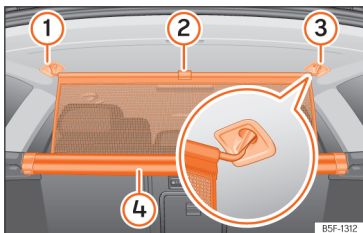

Fig. 190 In the boot: securing the partition net.
- Pull up handle >>> Fig. 190 ② to remove the net from the casing ④.
- Hook in the net partition on the right or left side ③ [magnified image].
- Hook in the net partition into the housing on the other side ① by pulling the rod.